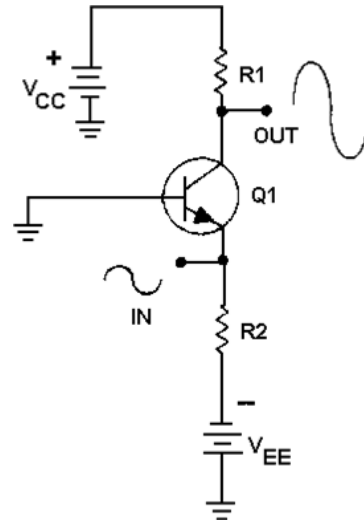

Figure 3.32 Class A amplifier
- The class A amplifier as in Figure 3.32 has the characteristics of good FIDELITY and low EFFICIENCY.